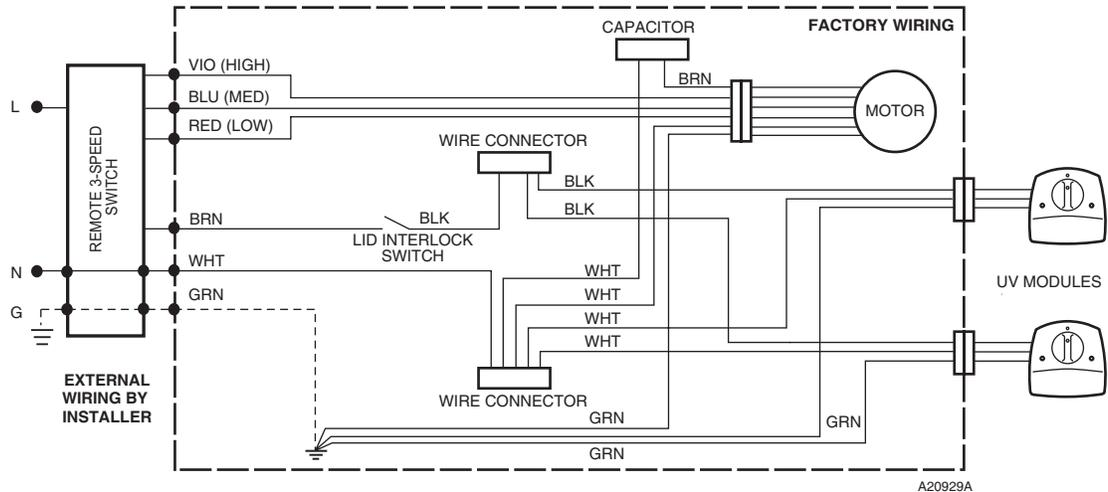

Fig. 3. Typical F111U 120V, 60 Hz or 230, 50 Hz wiring diagram.
3. Refer to Fig. 3 for typical electrical diagrams.